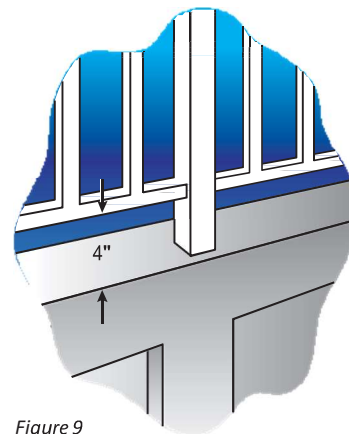

Figure 9
- Where the top of the pool structure is above grade or surface, such as an aboveground pool, the barrier may be at ground level, such as the pool structure, or mounted on top of the pool structure. Where the barrier is mounted on top of the pool structure, the maximum vertical clearance between the top of the pool structure and the bottom of the barrier shall be 4 inches (figure 9).